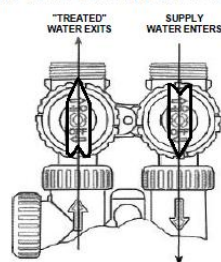

Figure 2 - Service
1. **Normal Operation Position:** The inlet and outlet handles point in the direction of flow indicated by the engraved arrows on the control valve. Water flows through the control valve for normal operation of a water softener or filter. During the regeneration cycle this position provides regeneration water to the unit, while also providing untreated water to the distribution system (**Fig. 2**).
- STEP 13:** **Backwash Cycle:** Another count-down timer will appear in the time-of-day position, “BACKWASH” will be shown in the lower middle of the display and “REGEN” appears in the middle left of the display. First time through this step: Unplug the transformer from the electrical outlet to keep the softener from advancing to the next cycle. Slowly turn the INLET knob of the bypass, counter-clockwise, to a point approximately half way between “Bypass” and “Service” positions (Figure 2, Page 4). Water will begin to fill the mineral tank from the bottom up, gently purging the air from the tank. When air stops escaping and only water flows to the drain; gradually turn the INLET knob of the bypass valve counter-clockwise until it is fully in “Service” position (Figure 2, Page 4). Then turn the OUTLET knob of the bypass valve counter-clockwise until it is fully in the “Service” position (Figure 2, Page 4). When the water flowing to drain runs clear, plug the transformer back into the electrical outlet. Both First and Second time through this step: Press the “REGEN” button to advance to the “Brine Draw” cycle.